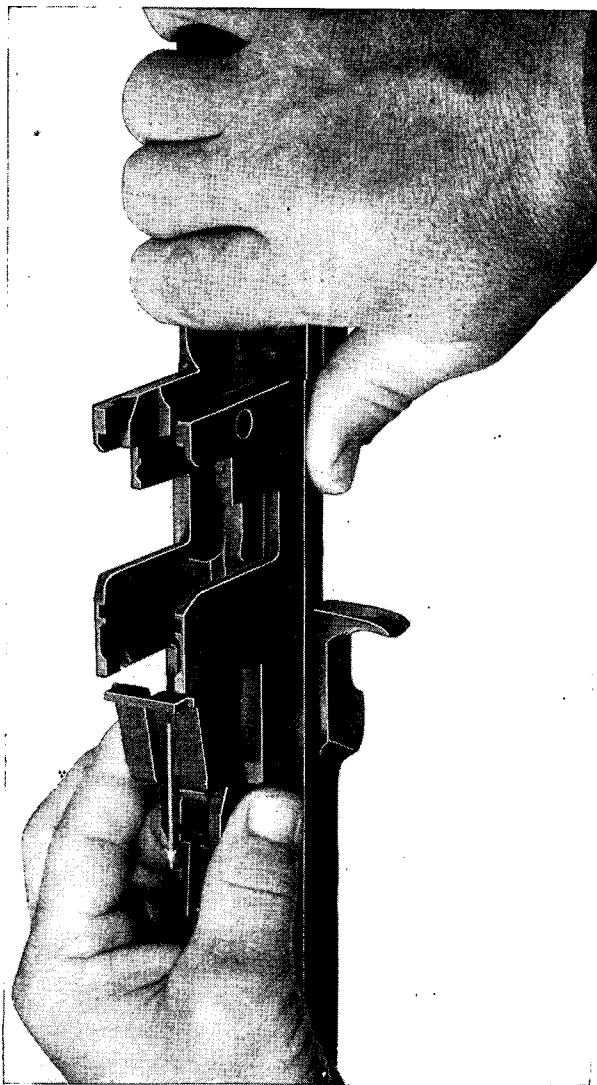

Figure 10. Removing the bullet guide, follower arm, and operating rod catch assembly.
c. Grasp the bullet guide, follower arm, and the operating rod catch assembly, and lift them out of the receiver together (fig. 10). Separate and arrange these parts from left to right in the following order: follower arm, operating rod catch assembly, and bullet guide.